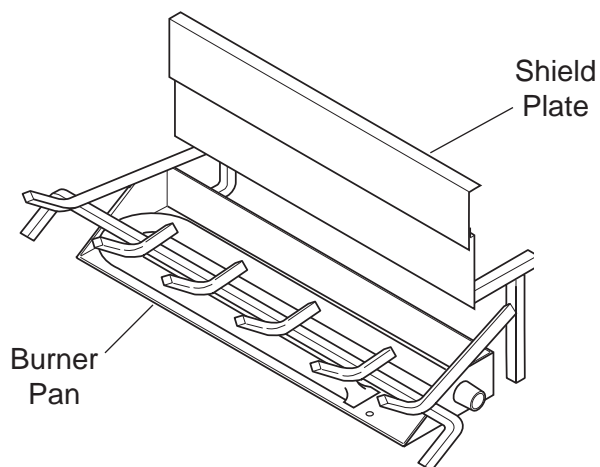

Figure 111 - Sliding Shield Plate Down Back of Burner Pan
1. Slide shield plate down back of burner pan. *See Figure 111.*